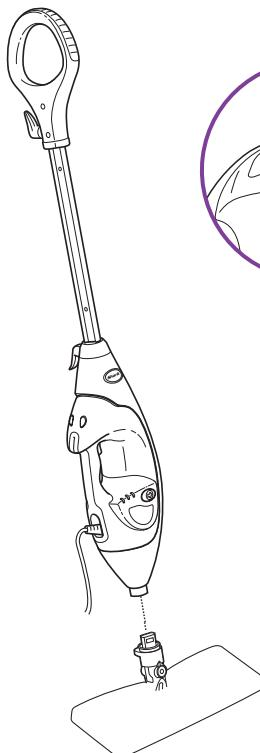

fig. 5
- 5 Turn the water tank cap counter clockwise and remove from the tank. (fig. 5)